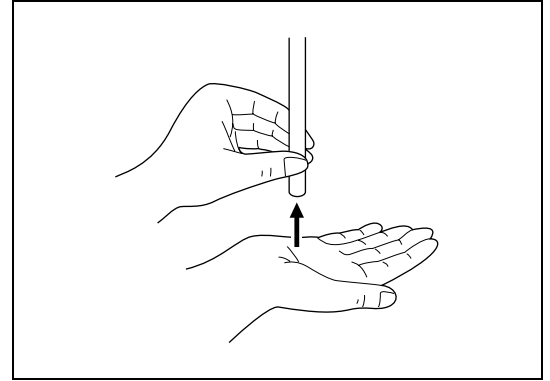

Figure 3.1
- 1 Bring the distal end of the scope to about 1 cm from the palm of your hand and then slowly move it away until it is about 5 cm from your hand while making sure the brightness of your hand displayed on the monitor is uniform. (Refer to Figure 3.1.)